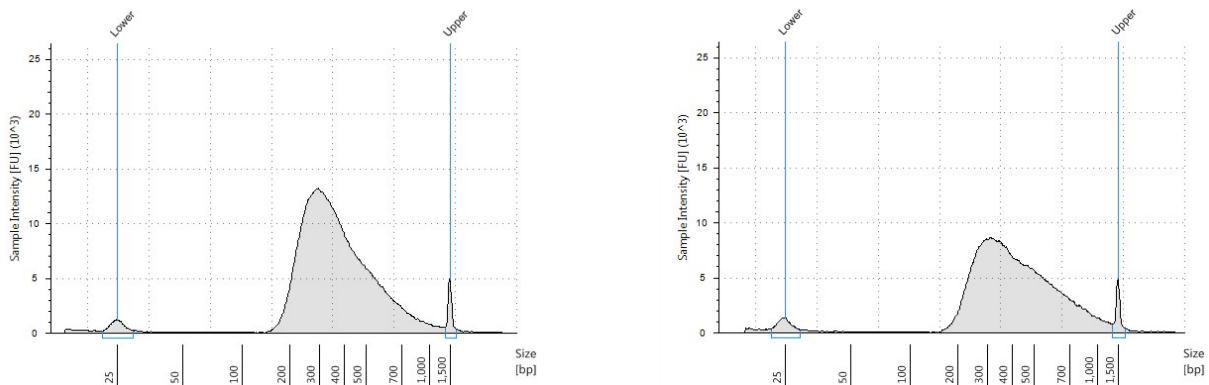

Figure 3: Representative sample electropherograms showing pre-capture analysis of amplified library DNA using the 2200 TapeStation with a D1000 ScreenTape.
- 3 Verify that the electropherogram shows the peak of DNA fragment size positioned between 245 to 325 bp. Sample electropherograms are shown in Figure 3. Variability of fragmentation profiles may be observed.